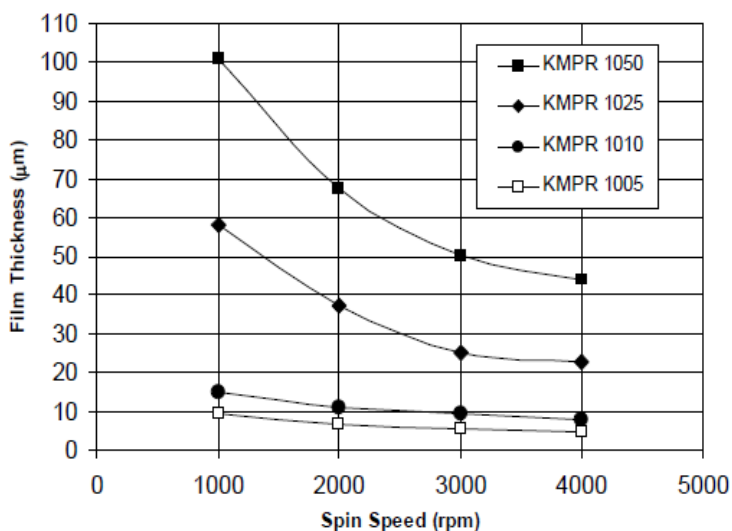

Figure 1. Spin speed vs. Thickness
- b. Step 2 of 2: Refer to KMPR data sheet to determine the spin speed necessary for desired thickness, 30 sec (Figure 1)